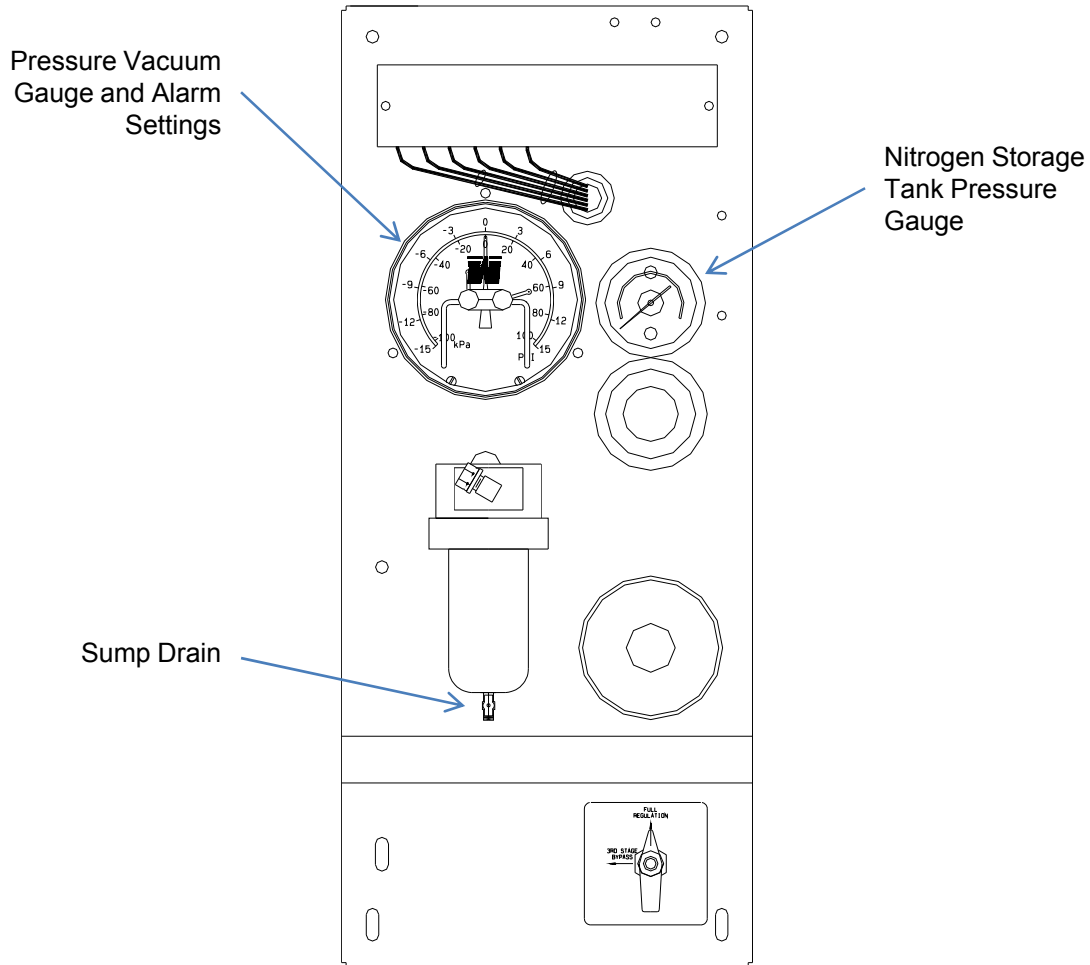

Figure 10 – Regulation Module Assembly
5. Release pressure from nitrogen storage tank using the sump valve (see figure 10 on page 16) until 95 psi remains.
3. Make sure unit is de-pressurized by opening the sump valve (see figure 10 on page 16).
7. Release pressure from nitrogen storage tank using the sump valve (see figure 10 on page 16) until 95 psi remains.